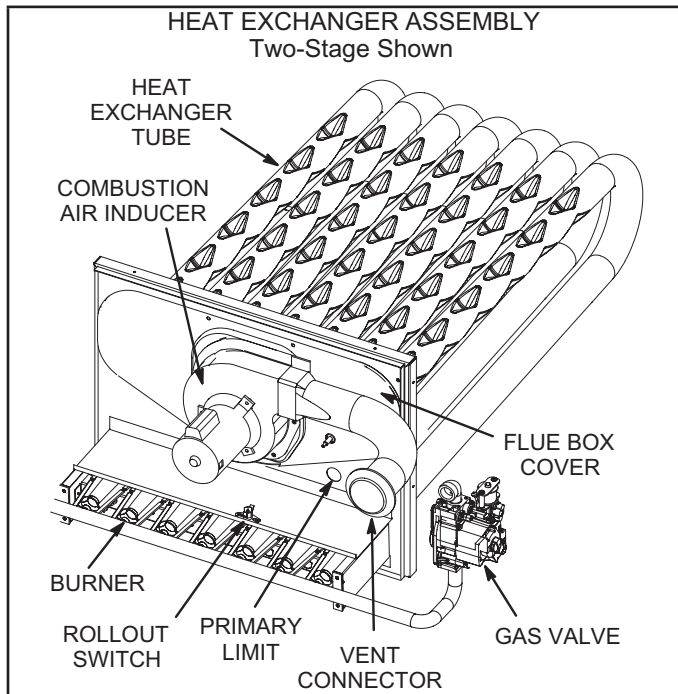

FIGURE 36
- 4 - Remove and retain screws securing combustion air inducer to flue box. Remove vent connector. See FIGURE 36.